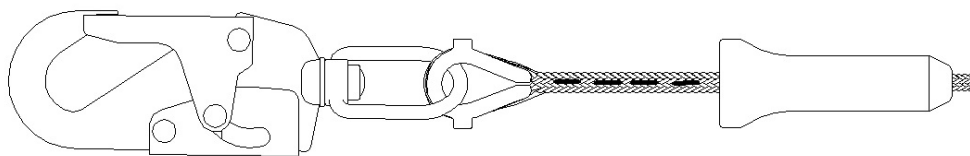

Figure 5
- Synthetic rope: Check the sewing thread which is inside of the bumper and the plastic thimble. Whenever the sewing thread is damaged, remove the unit from use. See Figure 5.